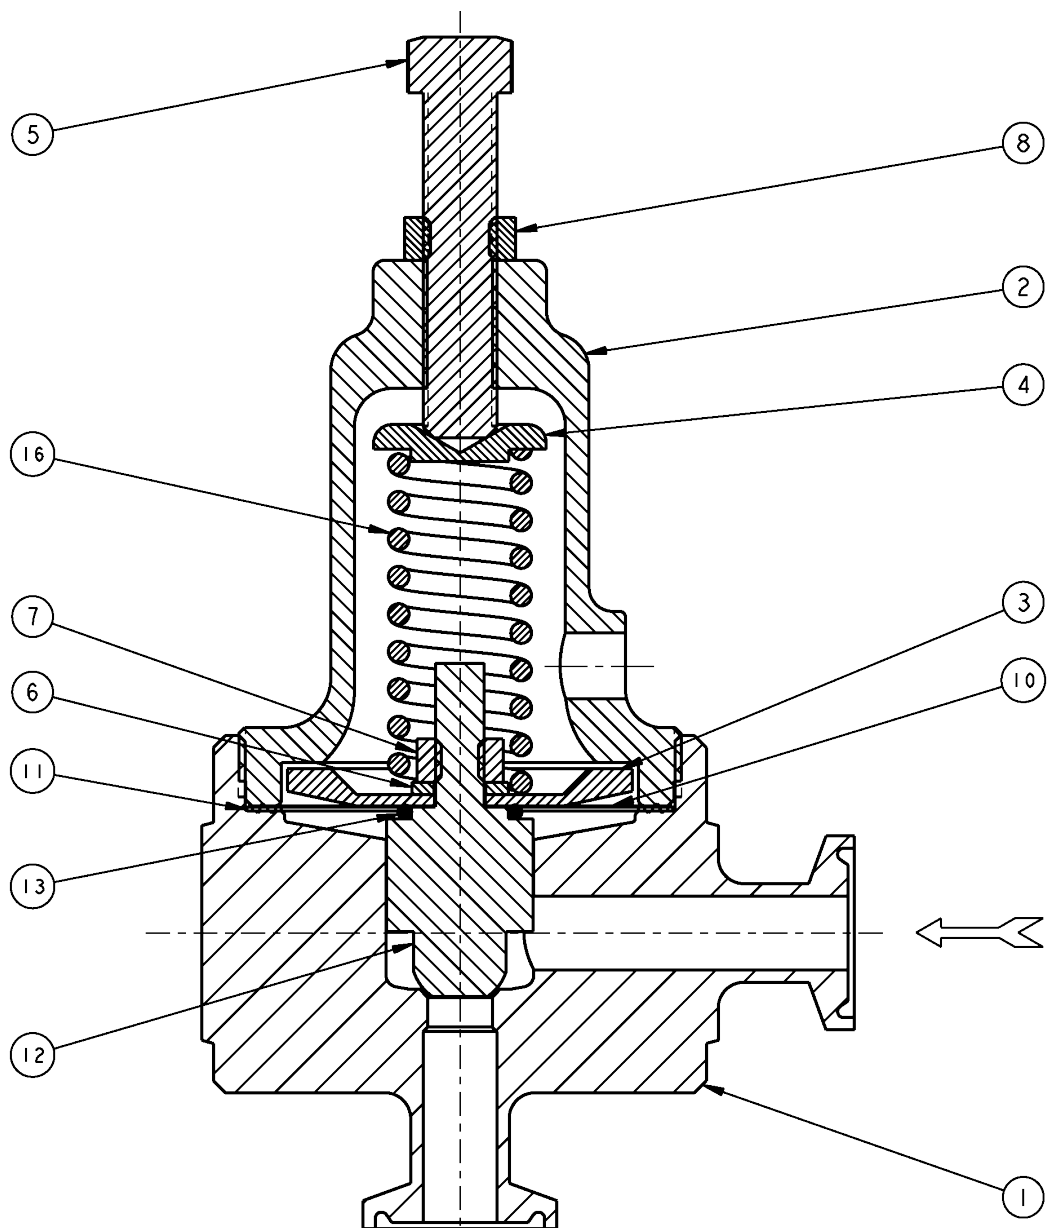

FIGURE 2
3. Refer to Figure 2 for the basic regulator, item number reference ().